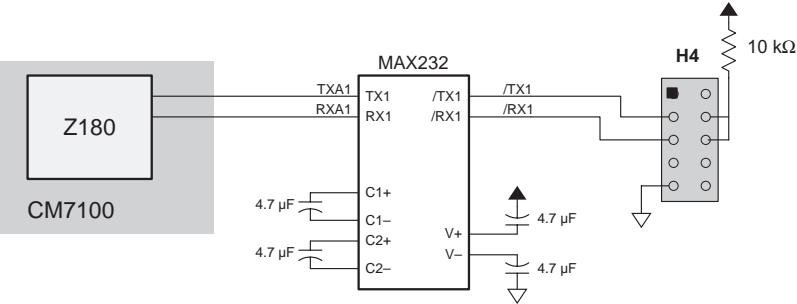

Figure 2-13. CM7100 Prototyping Board Serial Driver
- 2. Build a serial driver into your system based on the one on the Prototyping Board (see Figure 2-13).